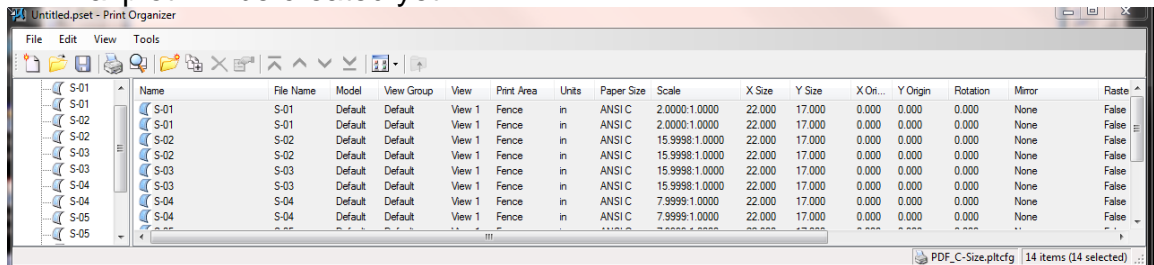

Figure 7
- Note in Figure 7 that the properties are now configured according to the settings in the plot style. The columns should be reviewed each time to insure that the proper settings are applied before plotting.